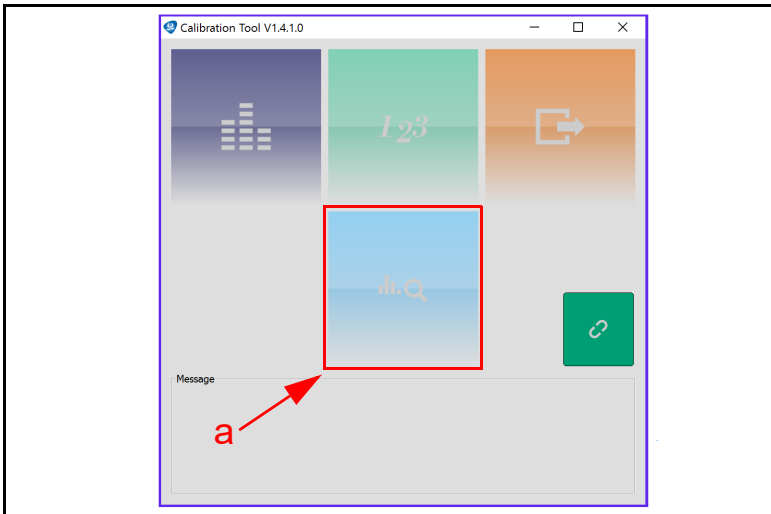
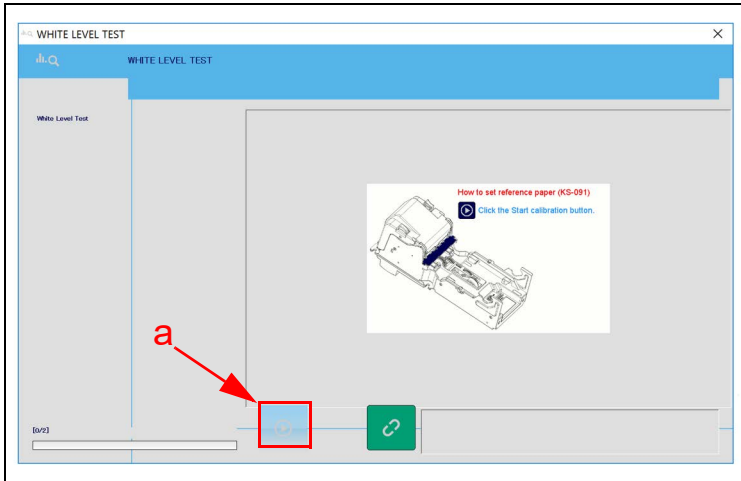

Figure 11 DBV-500 S Calibration Tool
Figure 12 DBV-500 S White Level Test Function
7. Confirm that the DBV-500 S Calibration Tool is running, as shown in Figure 11.
8. Click the White Level Test function screen button (Figure 11 a). The White Level Test screen appears momentarily (refer to Figure 12).
9. Follow the onscreen prompts and click the Start button (Figure 12 a) to begin the DBV-500 S White Level Test.